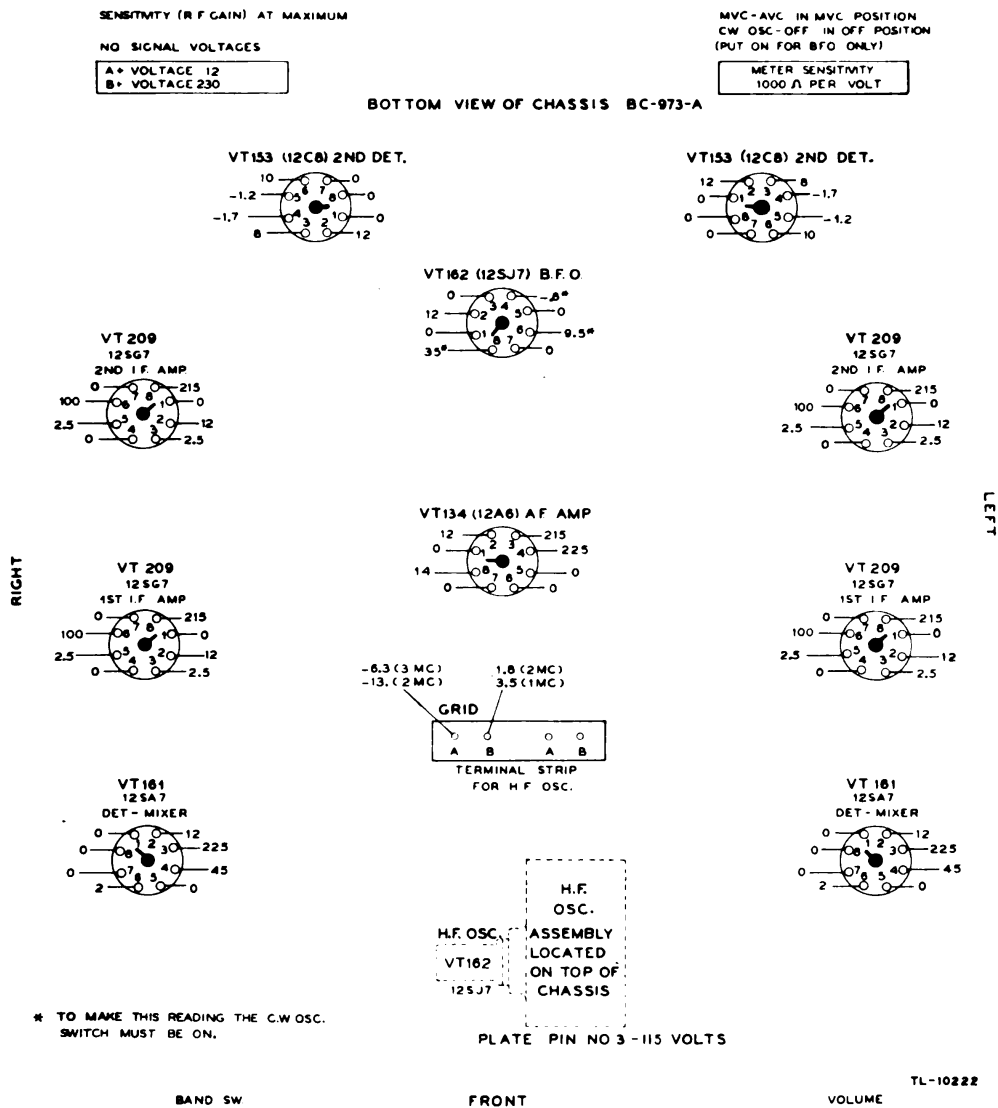

Figure 22. Radio Receiver BC-973-A, tube socket voltages.
(a) Now check the tube voltage and resistances and compare with figures 22, 23, 24, and 25.
e. If the right channel is defective (subpar. *b.* (2)) determine which stage is defective by following the procedure outlined in subparagraph (*d.*) above.
f. If the trouble is in the oscillator or loop circuits (subpar. *b.* (4)) a very simple check will show whether or not the oscillator is working.
(1) Measure the voltage on the oscillator grid or on one of the wires connected to it with a voltmeter of at least 1,000 ohms per volt. This voltage should be negative as indicated on figures 22 and 24.
(2) If there is no grid voltage, then check the voltage of the oscillator coils, bandswitch, oscillator tube and oscillator section of the tuning capacitor.
(3) If these are satisfactory, the trouble must be in the loop circuit.
a. Relay contacts. (1) Relay contacts become noisy after they have been subjected to considerable use. This causes a very loud click in the headphones whenever the PRESS TO BALANCE or